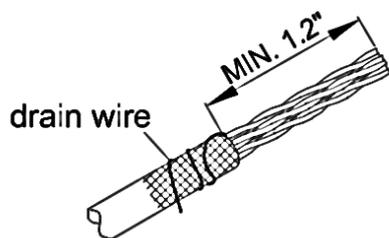

Fig. 1
- Strip of 1.2"/ 30mm of jacket from the cable with the cable jacket stripper (Fig 1.)